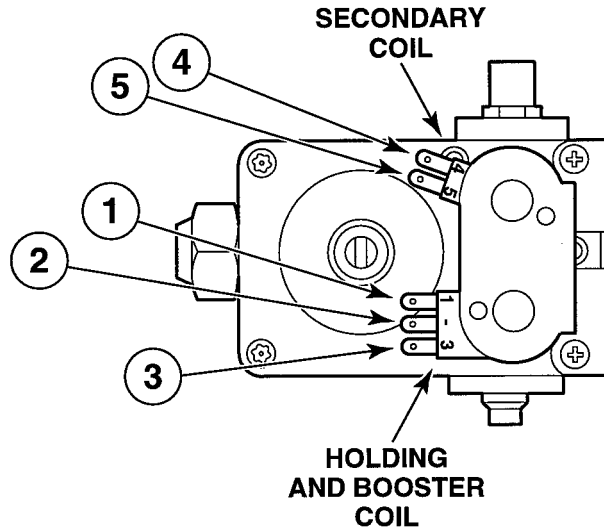

Figure 7-5
- Remove valve wire harness disconnect block from the holding and booster coil. See figure 7-5.
- Set test meter to read Ohms and put meter probes to terminals as in figure 7-5, and in the following chart.